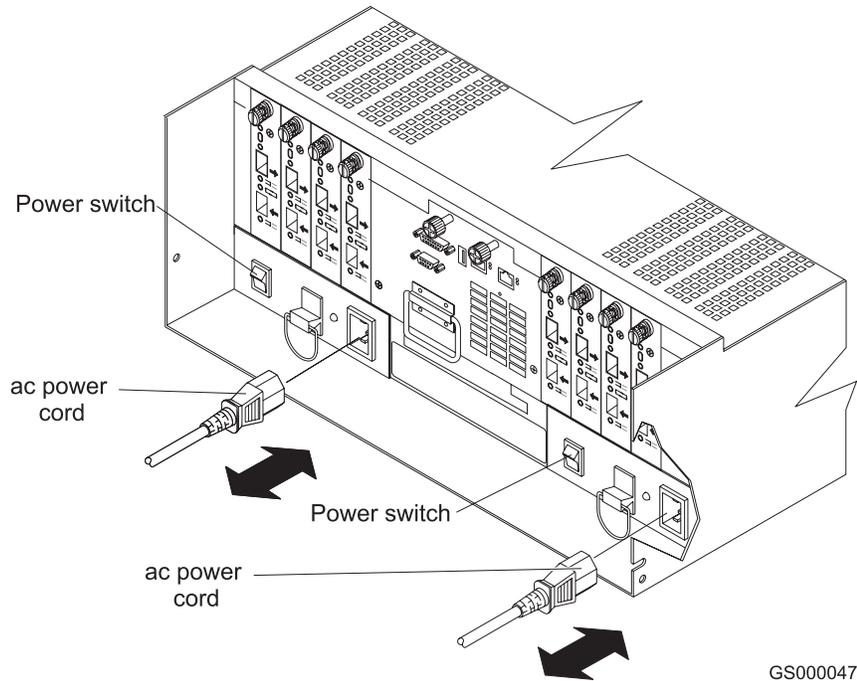

Figure 23. Connecting the power cords and power switch locations
- b. Turn on the power supply switches on the back of the DS4500 Storage Server (see Figure 23). You must turn on both power-supply switches to take advantage of the redundant power supplies.
- b. Turn off power to the storage server *before* you turn off power to the storage expansion enclosures. Turn off both power supply switches on the back of the storage server. See Figure 23 on page 23.